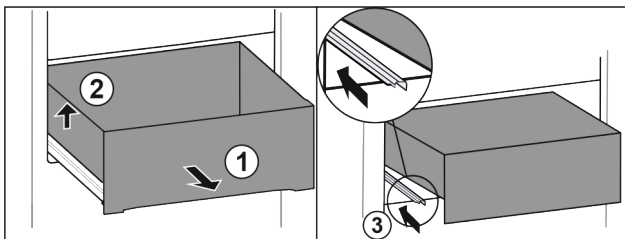

Fig. 159
- ▶ Pull out drawer as far as it will go. Fig. 159 (1)
- ▶ Lift drawer on the left. Fig. 159 (2)
- ▶ Insert left rail. Fig. 159 (3)